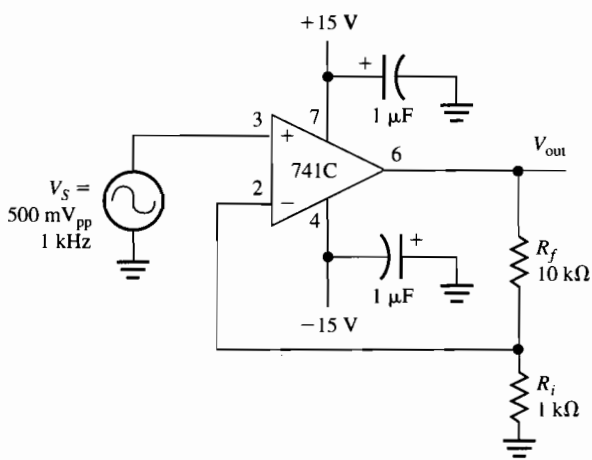

Figure 45-2
1. The circuit to be tested in this step is the noninverting amplifier illustrated in Figure 45-2. The closed-loop gain equation is given in Figure 45-1.
- (d) Connect the circuit shown in Figure 45-2. Set the signal generator for a 500 mV_{pp} sine wave at 1 kHz. The generator should have no dc offset.